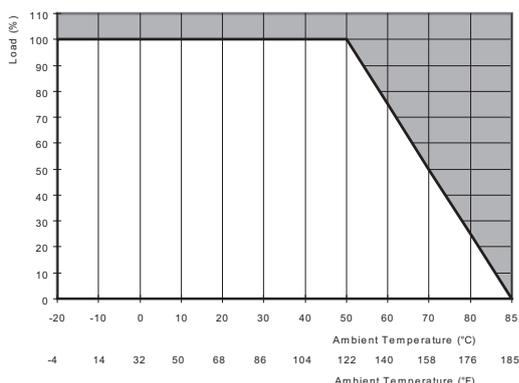

Figure 6
5.4. Thermal behavior (Fig. 6)
In the case of ambient temperatures above +50°C [122°F], the output capacity has to be reduced as shown in Figure 6. If the output capacity is not reduced when Tamb > 50°C [122°F] device will switch into thermal protection mode. The device will cycle output on and off to maintain internal power dissipation and will recover when ambient temperature is lowered or load is reduced as far as necessary to keep device in a normal operating mode.